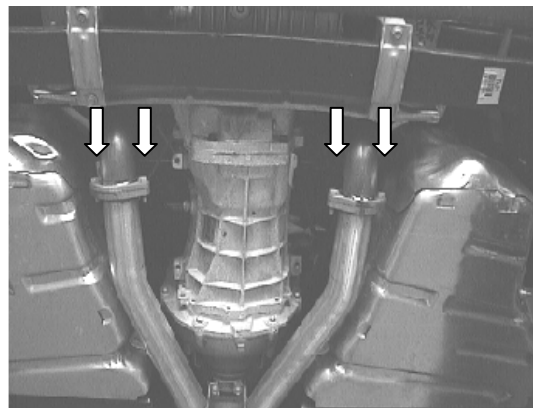

Figure 2
3. Remove the two bolts shown in figure 2 from each flange in front of the over axle pipe assemblies.